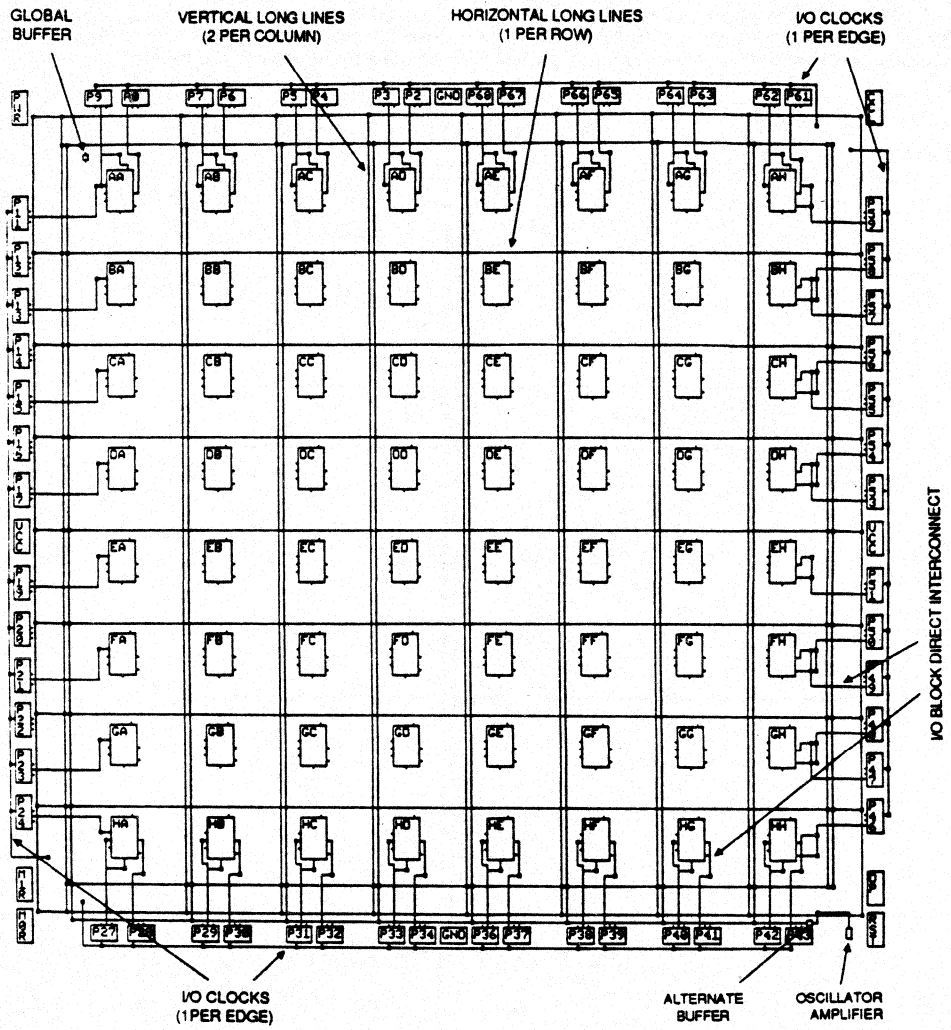

Figure 8b. Am2064 Long Lines, I/O Clocks, I/O Direct Interconnect
C or K inputs of the logic blocks. Alternatively, these long lines can be driven by a logic or I/O block on a column-by-column basis. This capability provides a common, low-skew clock or control line within each column of logic blocks. Interconnections of these long lines are shown in Figure 8b.
output can use direct interconnect to drive the B input of the block immediately to its right. Where logic blocks are adjacent to I/O blocks, direct connect is provided to the I/O block input (I) on the left edge of the die, the output (O) on the right edge, or both on I/O blocks at the top and bottom of the die. Direct interconnections of I/O blocks with CLBs are shown in Figure 8b.